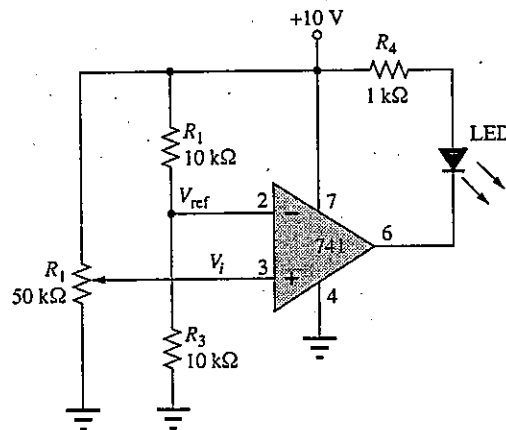
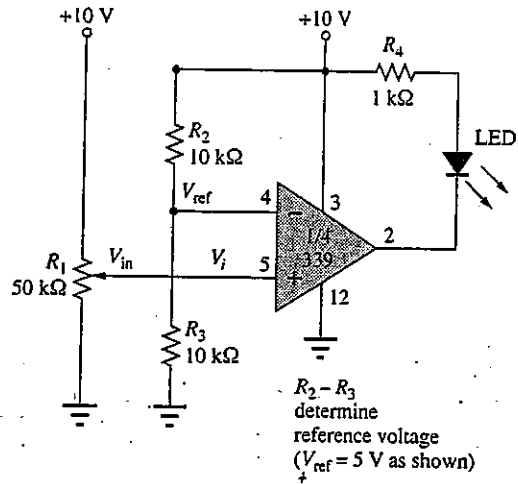

Figure 30-1
Figure 30-2
Figure 30.1 shows a 741 op-amp used as a level detector. The reference level voltage  $V_{ref}$  is set at +5 V. The indicator LED goes on whenever the input  $V_i$  goes below  $V_{ref}$  and goes off whenever  $V_i$  goes above  $V_{ref}$ . Figure 30.2 shows a similar operation using a 339 comparator IC.
- a. For the circuit of Fig. 30.1 verify that  $V_{ref} = 5\text{ volts}$ .
- b. Construct the circuit of Fig. 30.1. (Measure and record resistor values in Fig. 30.1.)
- a. For the circuit of Fig. 30.2 calculate  $V_{ref}$ .
- b. Construct the circuit of Fig. 30.2. (Measure and record resistor values in Fig. 30.2.)